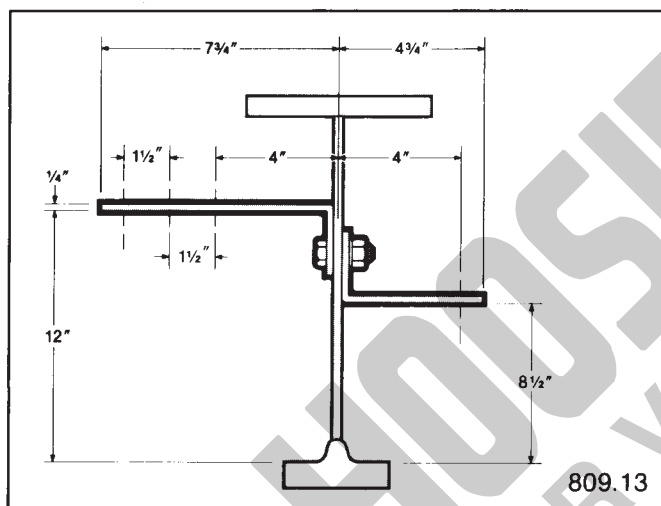

FIGURE 34
- 809.13 (Refer to Figure 34): For up to 6-wire (3-run) dual conductor bottom-entry electrification or 4-wire single conductor bottom-entry electrification at 8½" above operating flange surface of 12" depth 604 *SuperTrack™ Girder* or 605 *TrojanTrack™ Girder*. On girder depths of 14" or greater, electrification can be either 8½" or 12" above operating flange surface.